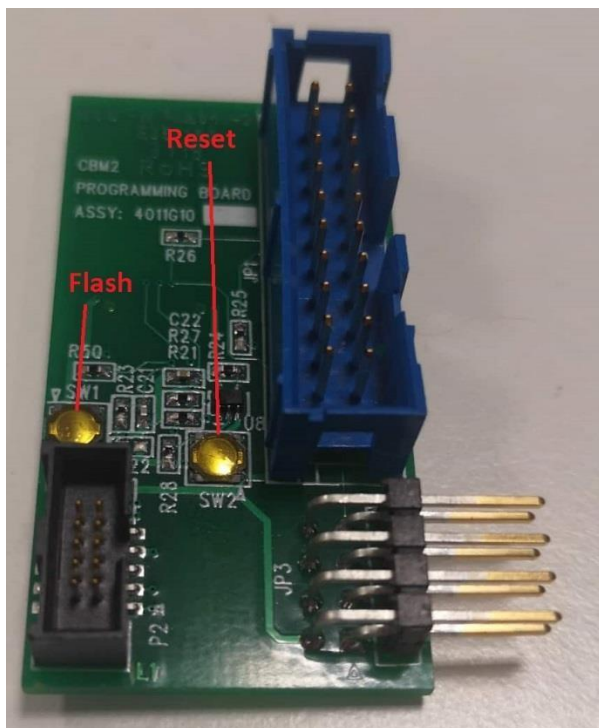

Figure 34: Mote Flash Preparation – Programming Board
- Please note, the mote must now be RESET. This is done by pressing the SW2 button as indicated in Fig.34.